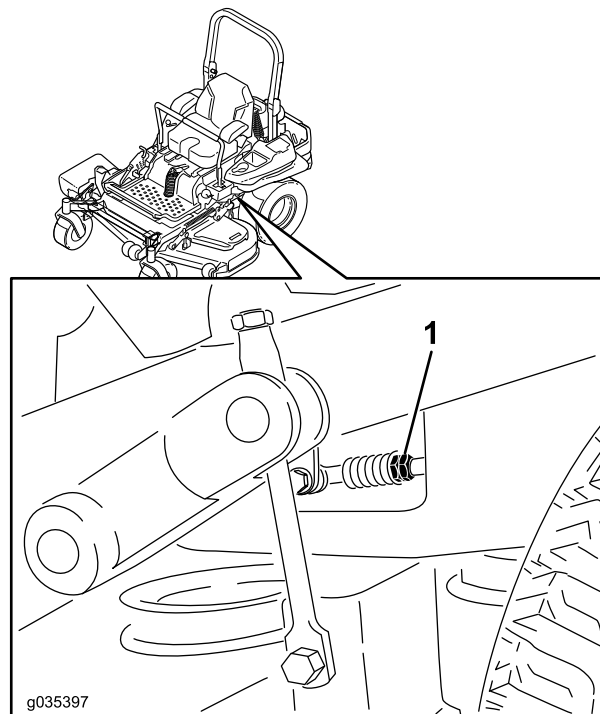

Figure 91
8. Adjust the pump-control rod lengths by rotating the double nuts on the rod in the appropriate direction until the wheels slightly creep in reverse (Figure 91).